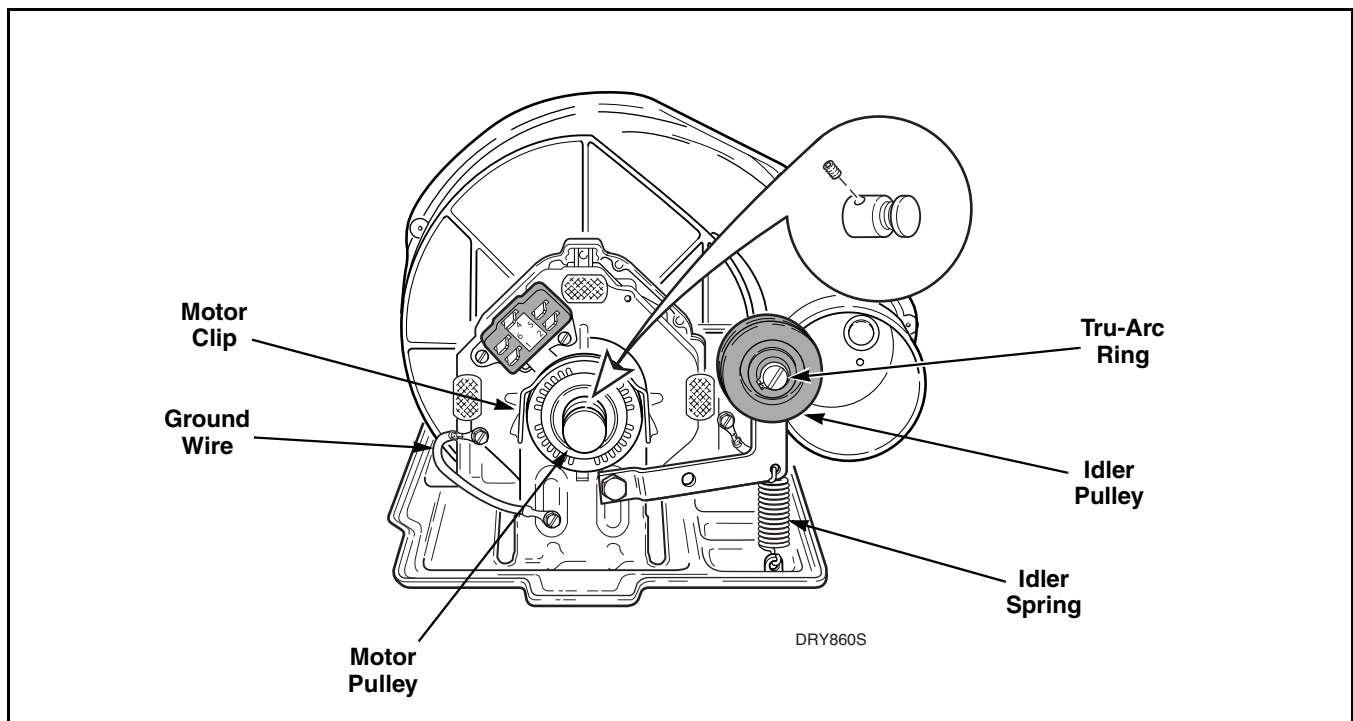

Figure 32
- d. When replacing motor, switch location should be at 10 o'clock. Refer to *Figure 32.*
- b. Refer to *Figure 32* for motor and idler pulley removal.